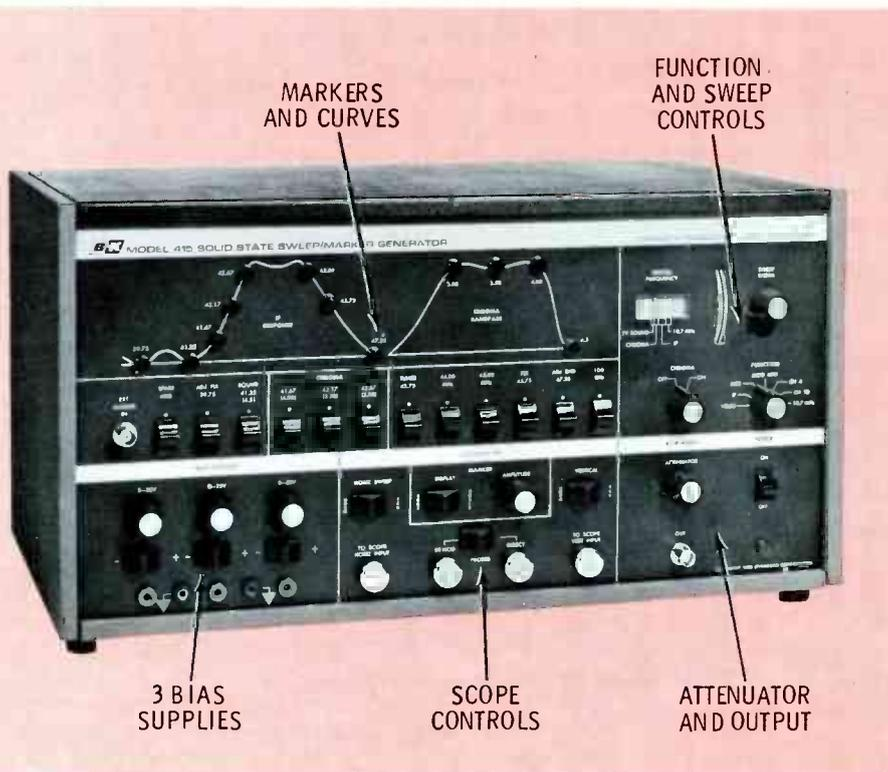

Fig. 1 Front panel of the B&K Model 415 Sweep/Marker Generator is divided into five sections according to the related functions.
- Convenient groupings of the front panel controls according to usage, as shown in Fig. 1.